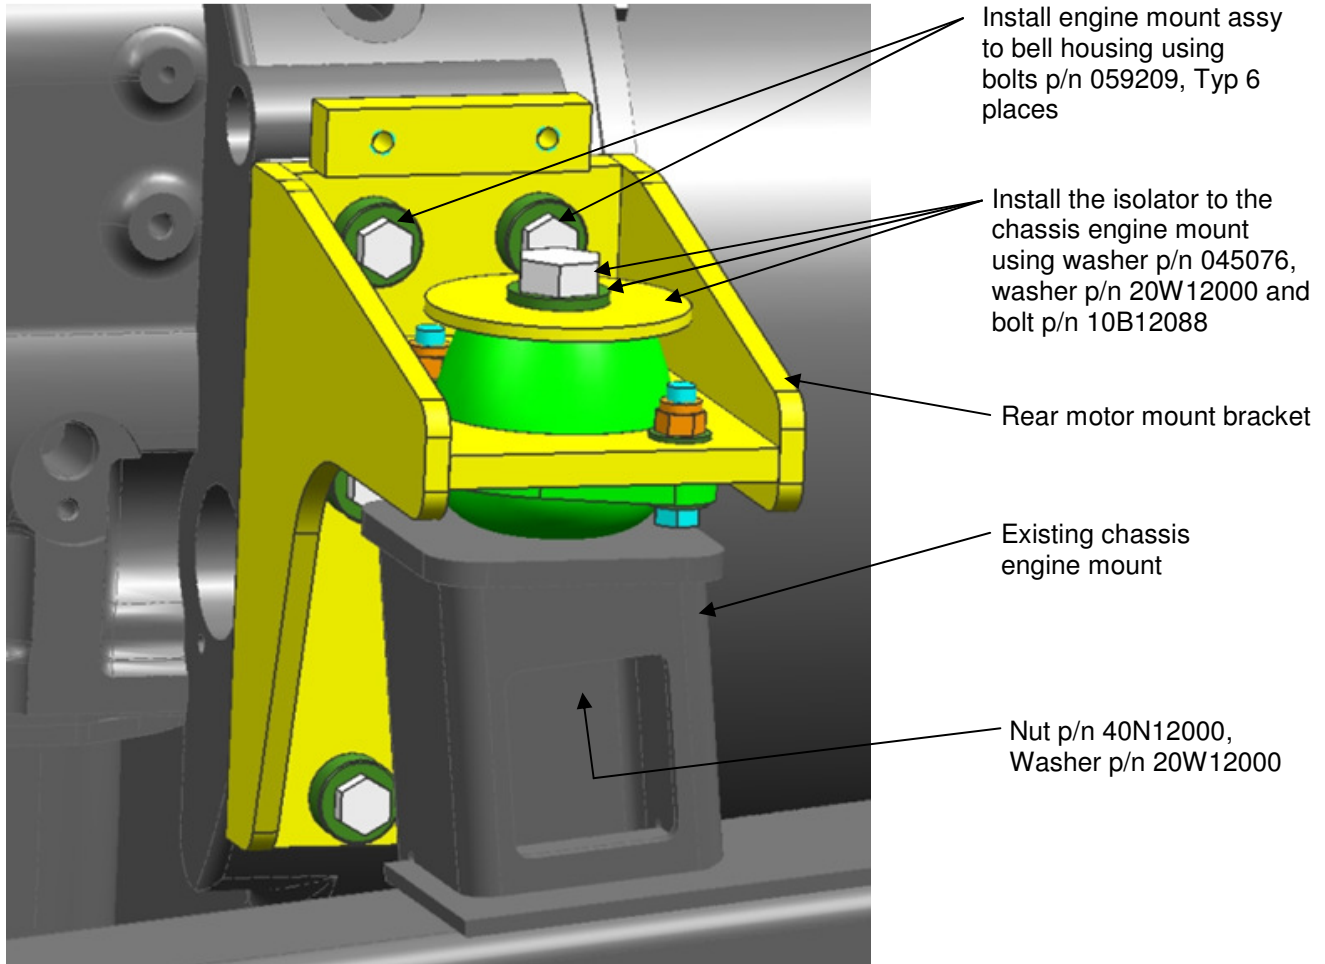

Figure 4: Motor Mount Bracket Assembly Installation
9. Install the new mount and isolator assembly to the bell housing using bolt p/n 059209 (qty 6), torque hardware to 70 ft*lbs dry. See Figure 4.
10. Secure the isolator to the chassis engine mount using washer p/n 045076, washer p/n 20W12000 (qty 2), bolt p/n 10B12088 and nut p/n 40N12000. Torque hardware to 250 ft*lbs dry. See Figure 4.
11. Using the bolts and washers removed in Step 5 mount the muffler tank assy bracket to the motor mount bracket. Torque hardware to 30 ft*lbs. This step is for the curbside only. See Figure 4.